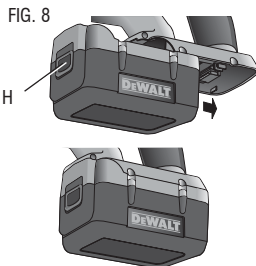

FIG. 8
### Installing and Removing the Battery Pack (Fig. 8, 9)
**To install the battery pack into the tool handle,** align the base of the tool with the rails inside the tool's handle and slide the battery pack firmly into the handle until you hear the lock snap into place (Fig. 8).